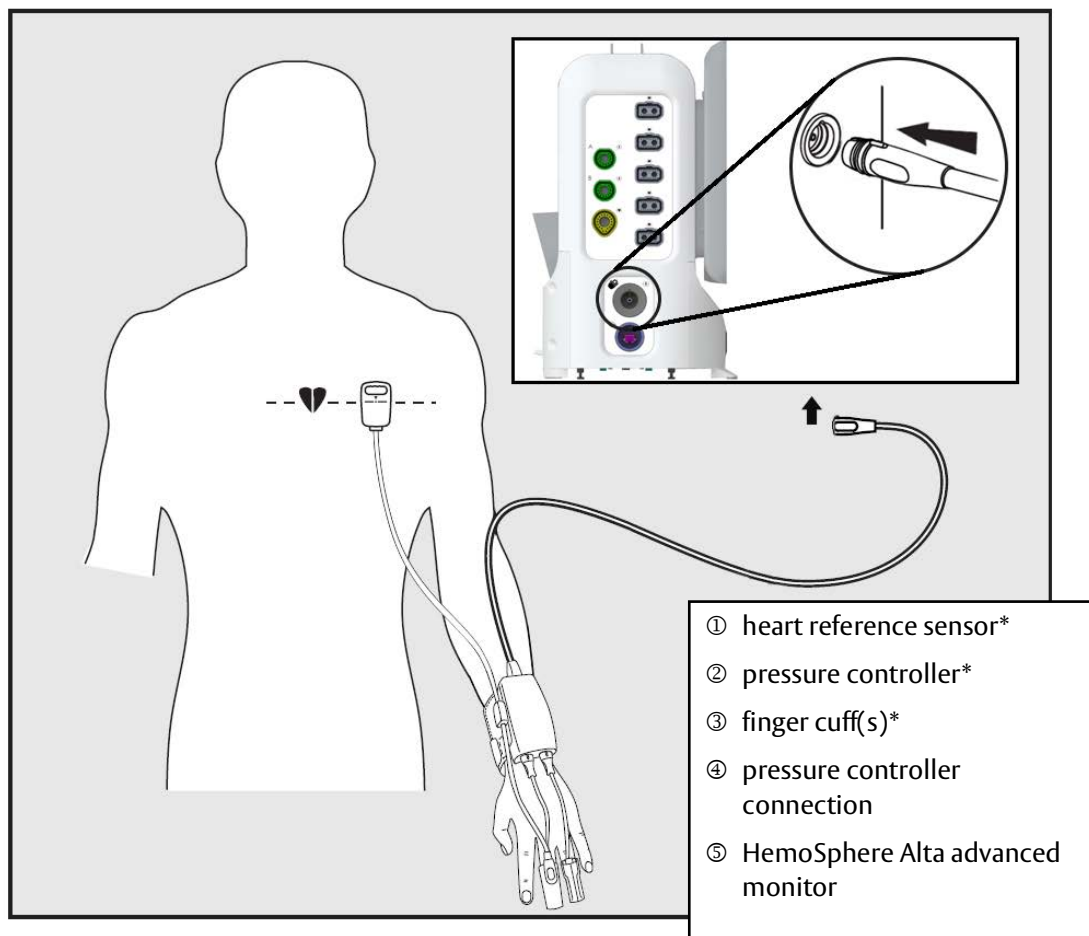

Figure 10-1 HemoSphere noninvasive system connection overview
The HemoSphere Alta ClearSight non-invasive monitoring system is composed of the HemoSphere Alta advanced monitoring platform with connected pressure controller, heart reference sensor, and compatible Edwards finger cuff(s). See system connections in Figure 10-1 on page 150. Accurate measurement of the patient's blood pressure and key hemodynamic parameters is based on the Volume Clamp method, Physiocal method and ClearSight algorithm.
HemoSphere Alta ClearSight technology is compatible with all approved Edwards finger cuffs. See figure 10-1 for an overview of the HemoSphere Alta non-invasive system connections.
NOTE Components indicated by a "*" in figure 10-1 legend are APPLIED PARTS as defined in IEC 60601-1 that in normal use necessarily come into physical contact with the patient for the HemoSphere Alta non-invasive system to perform its function.
- 3 Attach the pressure controller cable to the HemoSphere Alta advanced monitor. (figure 10-1)